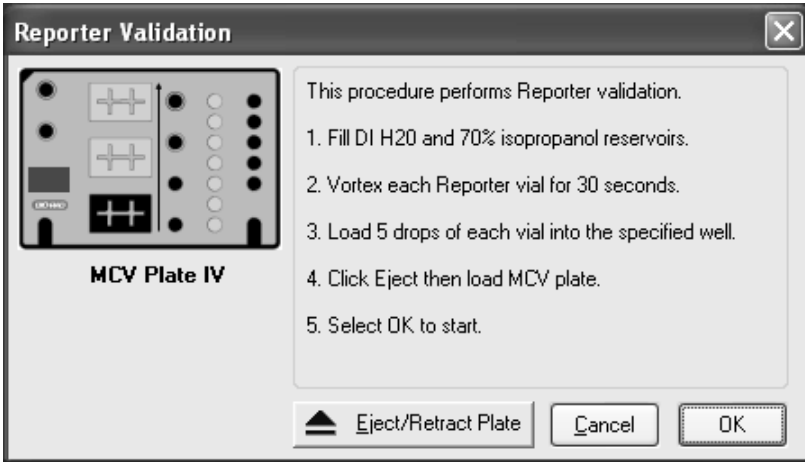

Fig. 8. Reporter validation dialog.
- Select **Instrument** from the main menu. Select **Validation** from the pull-down menu. A dialog will appear. Enter user name and control number. Select **Reporter Validation**. Select **OK**. The following dialog will appear (Figure 8):